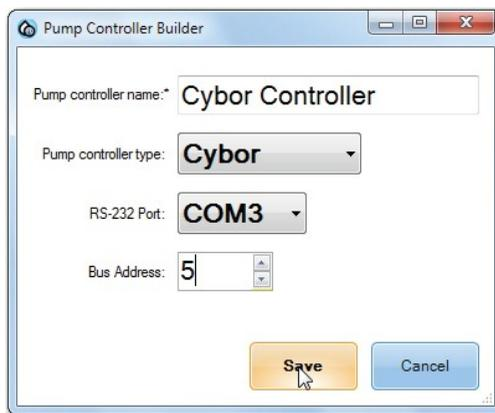

FIGURE 4-6: Creating a pump controller
2. Click to select a pump controller, e.g., Cybor. The Pump Controller dialog box opens. See Figure 4-6.